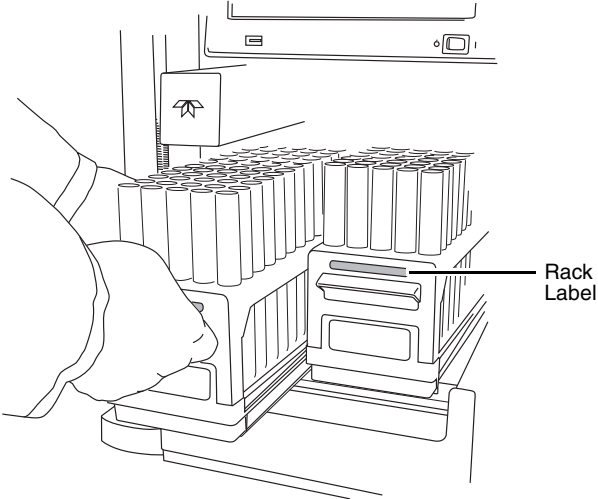

Figure 3-7 Inserting the collection tube rack
2. While holding the rack with the rack label visible (Figure 3-7), insert the racks into the system. Slide the rack in until you feel it drop into its seated position.